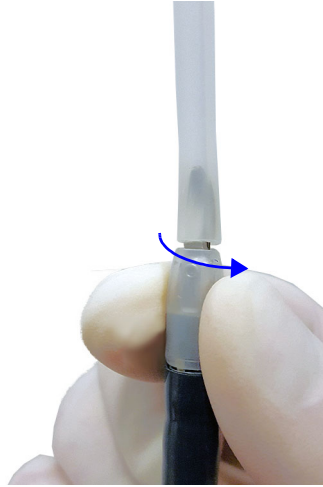

Figure 5.11 Grasp the tip cover and rotate $\frac{1}{4}$ turn counter-clockwise to unlock from the instrument shaft
2. Stabilize the instrument joints and grasp the tip cover. Rotate the tip cover $\frac{1}{4}$ turn counter-clockwise to unlock from the instrument shaft (Figure 5.11). If needed, use sterile gauze to more firmly grasp the tip cover while rotating.